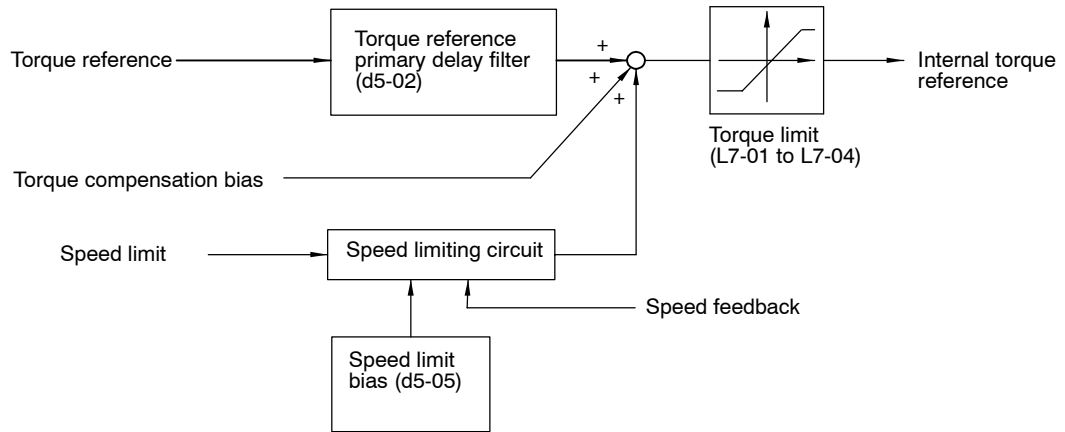

Fig 7.9 Torque Control Block Diagram
- *Figure 7.9* shows the operation of torque control.